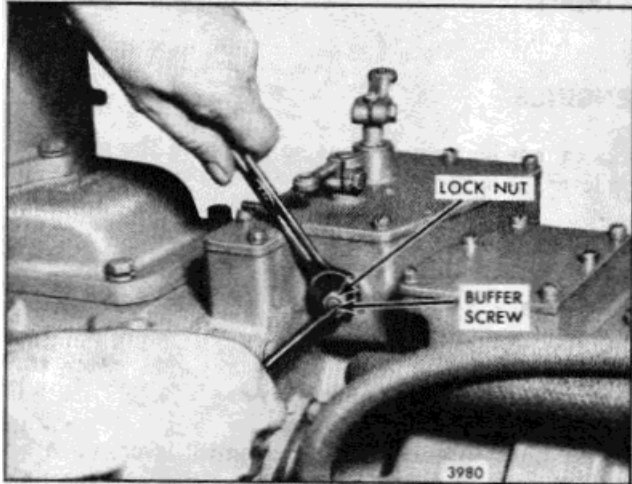

Fig. 15. - Adjusting Buffer Screw
3. Start the engine and loosen the idle speed adjusting screw locknut. Then, adjust the idle screw to obtain the desired idle speed (Fig. 15). The recommended idle speed is 400-450 rpm, but may vary with special engine applications. Hold the screw and tighten the locknut to hold the adjustment.
1. With the engine running at normal operating temperature, turn the buffer screw in so it contacts the differential lever as lightly as possible and still eliminates engine roll (Fig. 15).